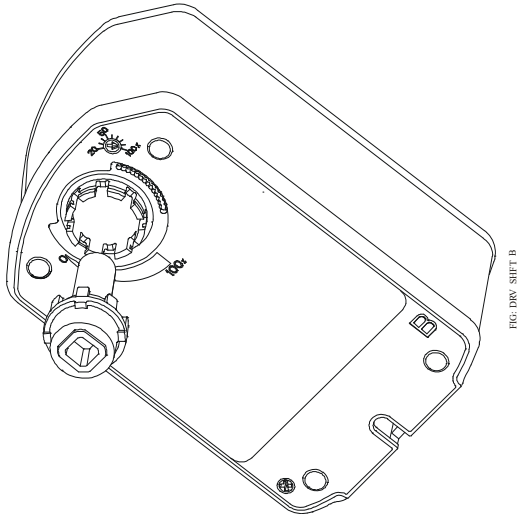

Figure 6: Inserting the drive shaft
4. Insert the drive shaft into Side B (Figure 6).